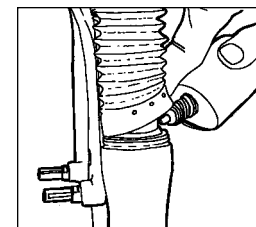

Fig. 3
1. Lift fork boots from lower tubes. Then wipe exterior surfaces, Resi-wiper seal area and upper tube clean. Apply 2-3 drops of Teflon-fortified oil to the upper tubes at the Resi-wiper. (See Fig. 3)